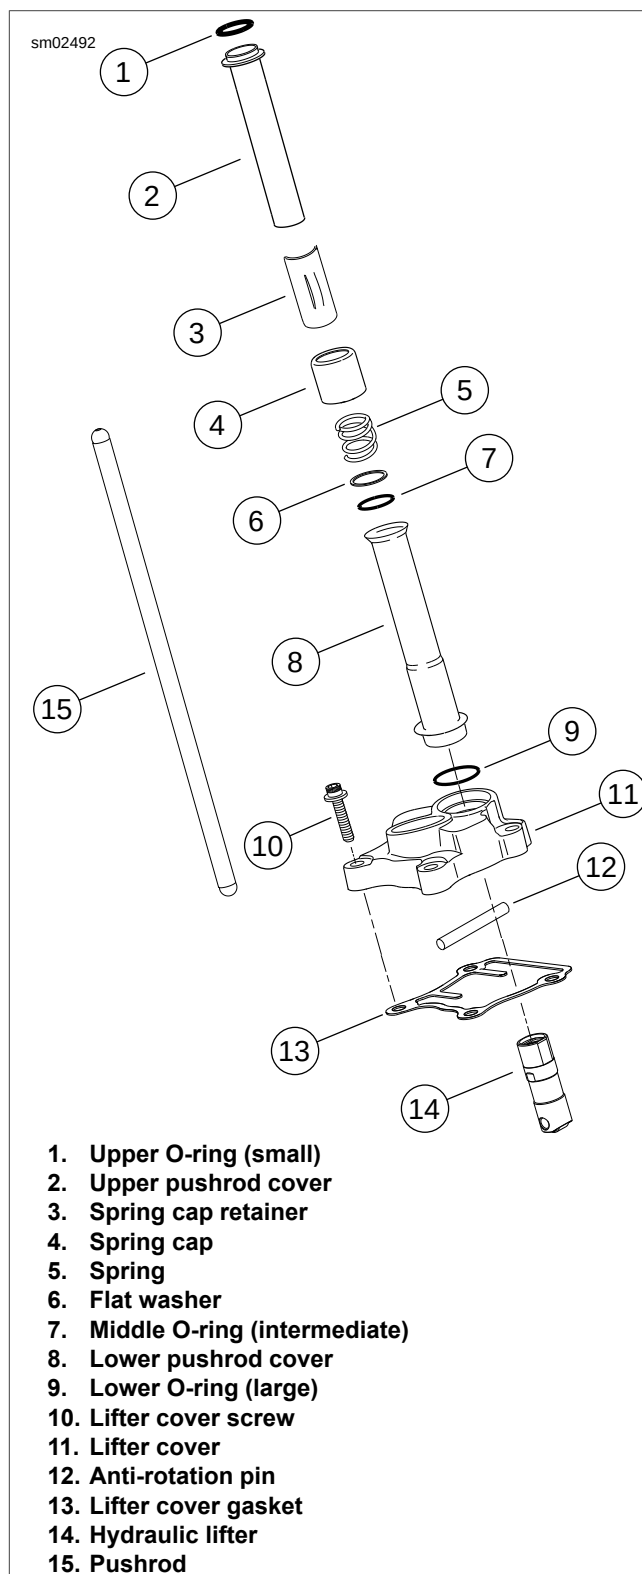

Figure 3-40. Pushrods, Lifters and Covers
See Figure 3-40. With the exception of the lifter covers, all parts should have been disassembled and marked during the removal procedure.
1. See Figure 3-40. Clean old gasket material from the lifter cover (11).
2. With the exception of the hydraulic lifters (14), clean all parts in a non-volatile cleaning solution or solvent. Verify that the O-ring seats and contact surfaces of the pushrod covers (2, 8) are completely clean.